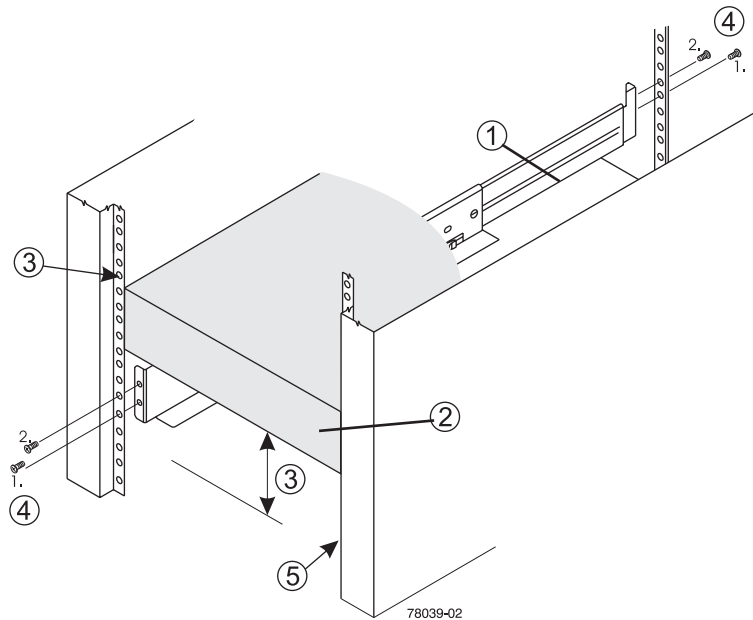

Figure 1-20 Rail Mounting Overview Example
4. Position and secure the support rails in the rack using the information in Figure 1-20 on page 26.